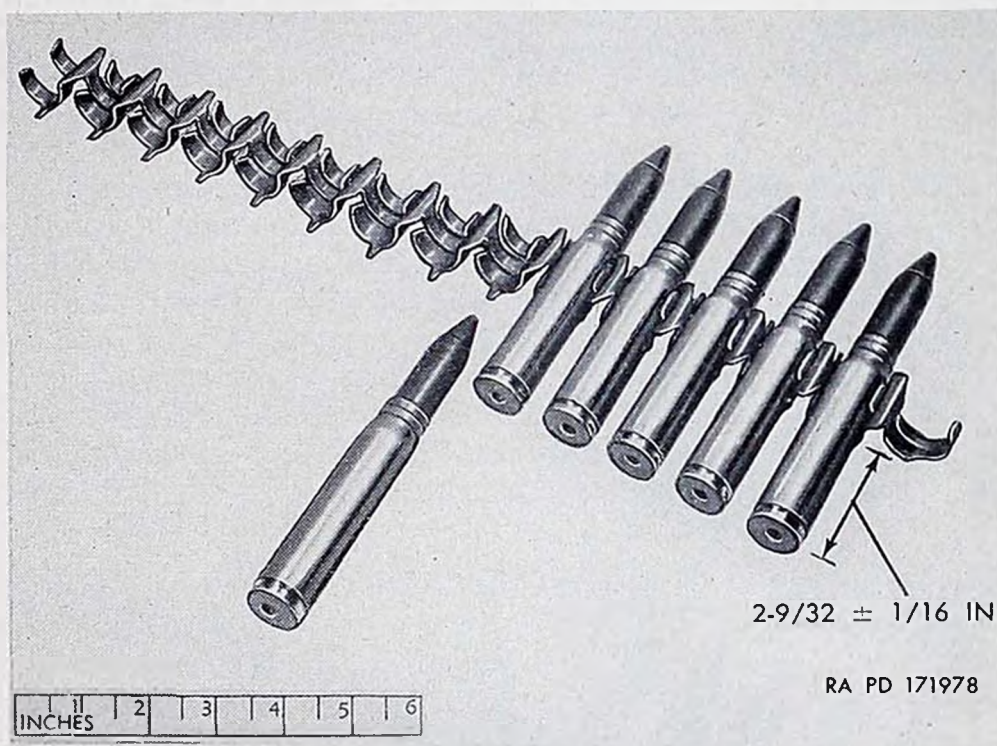

Figure 24. Hand-loading of links M10 (MSE1) for single-loop right-hand feed.
- (1) Place links M10 (MSE1) on a belting board, open sides up, with single loop to the right and placed between the double loops.
- (2) Place cartridges in the loops and advance them forward. The distance from the base of the cartridge to the rear edge of the loop is $2\frac{9}{32} \pm \frac{1}{16}$ inch (fig. 24). The last double loop must contain a cartridge, while the first leading loop must be empty, as shown in figure 24.